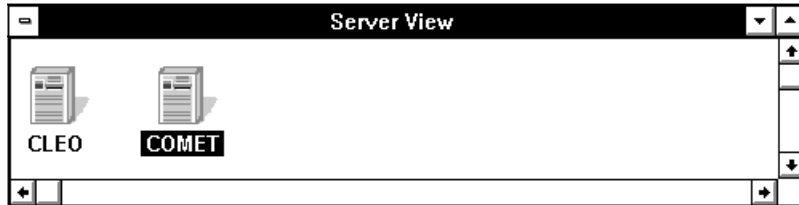

Figure 4-1. Server Icons
- Click the icon of the server whose arrays and spares you want to configure, as shown in Figure 4-1. You can identify the server by the name that appears beneath it.